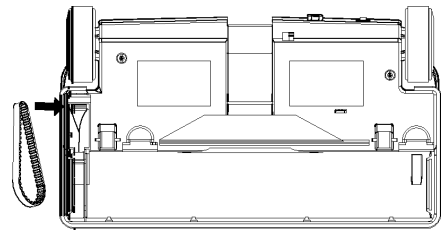

Figure 10
5. Slip the new cogged belt over the gear on the motor shaft (as shown in Figure 10).
8. Replace the Brush cover as described in item 6 under Brush Roller Cleaning.